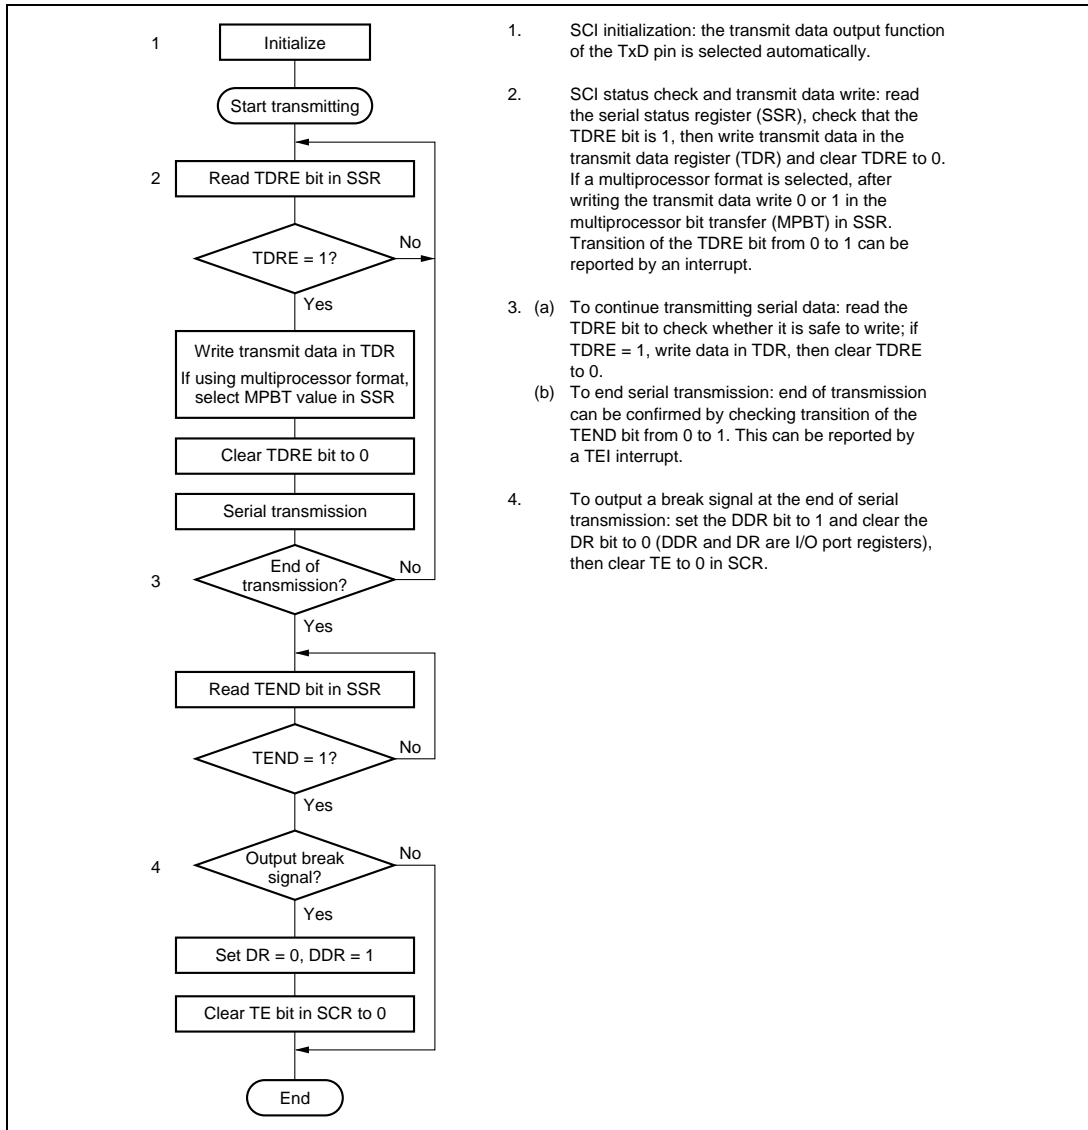

Figure 12-5 Sample Flowchart for Transmitting Serial Data
— **Transmitting Serial Data:** Follow the procedure in figure 12-5 for transmitting serial data.
- **Transmitting Multiprocessor Serial Data:** See figures 12-5 and 12-6.